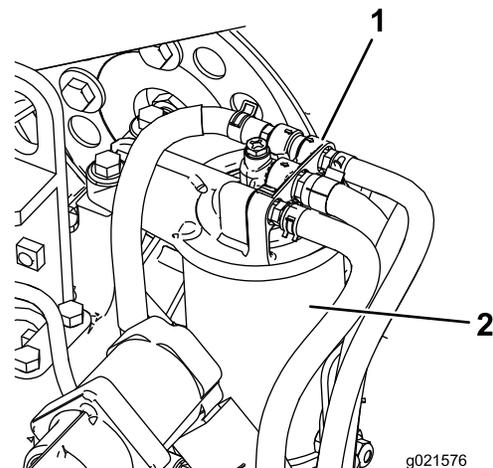

Figure 79
1. Clean the area around the fuel-filter head (Figure 79).
2. Remove the filter and clean the filter-head mounting surface (Figure 79).